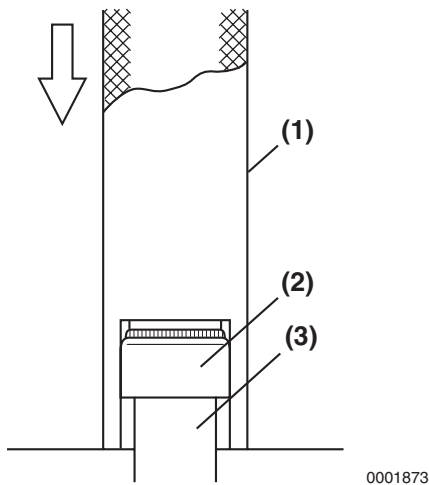

Figure 6-64
- Oil the lip of the valve stem seal (Figure 6-64, (2)). Using the valve stem seal installation tool (Figure 6-64, (1)), install a new valve stem seal on each of the valve guides (Figure 6-64, (3)).